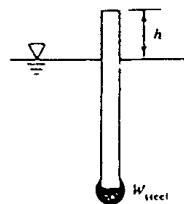

Fig. P2.113
**2.113** A *spar buoy* is a rod weighted to float vertically, as in Fig. P2.113. Let the buoy be maple wood ( $\text{SG} = 0.6$ ), 2 in by 2 in by 10 ft, floating in seawater ( $\text{SG} = 1.025$ ). How many pounds of steel ( $\text{SG} = 7.85$ ) should be added at the bottom so that  $h = 18$  in?
**2.115** The 2 inch by 2 inch by 12 ft spar buoy from Fig. P2.113 has 5 lbm of steel attached and has gone aground on a rock. If the rock exerts no moments on the spar, compute the angle of inclination  $\theta$ .